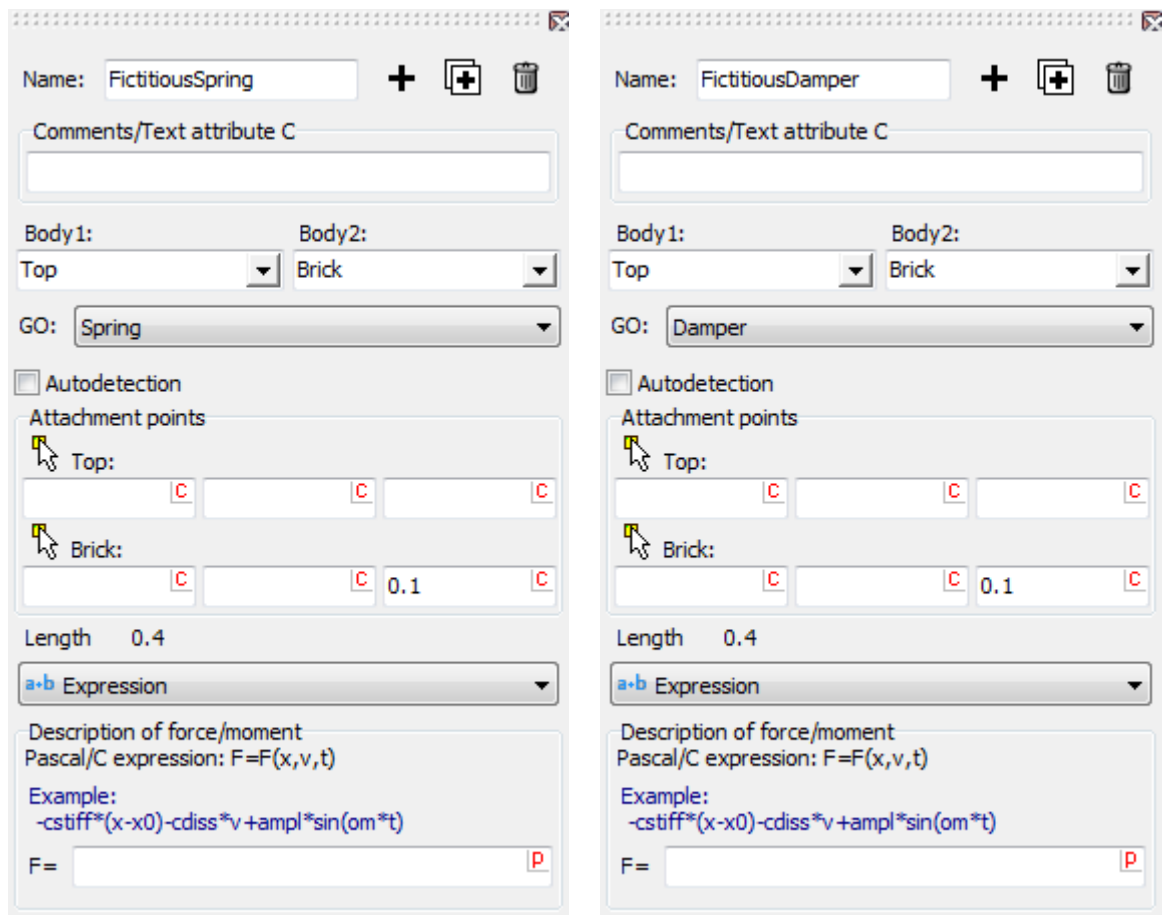

Figure 2.14. Fictitious bipolar forces
2. Add two bipolar force elements. Set their parameters as it is shown in Figure 2.14.